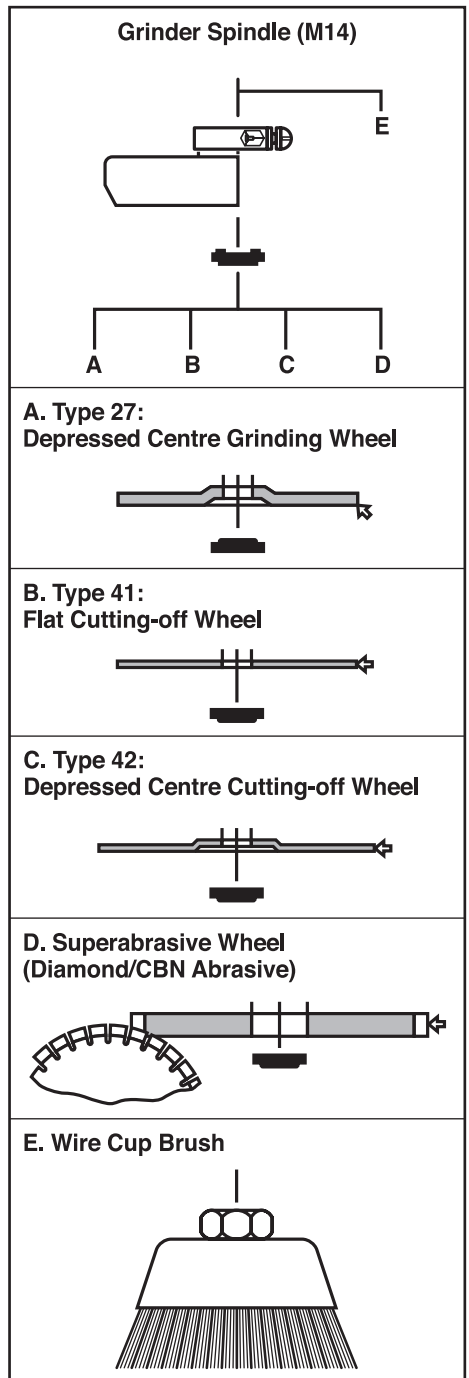

FIG.3
### 8.2 FITTING/REPLACING ACCESSORIES – FIG.3
- Press and hold the spindle lock button (3).
- Loosen the locking flange (4) anti-clockwise using the blade changing pin spanner (9) supplied.
- Remove the locking flange only (4).
- When fitting the appropriate accessory please refer to (FIG.3, on page 14) for specific details on the locking flange correct orientation as applicable.
- Securely tighten the locking flange clockwise using the blade changing pin spanner (10) while holding down the spindle lock button (3).
**Warning!** Never press the spindle lock button (3) while the spindle is in motion.